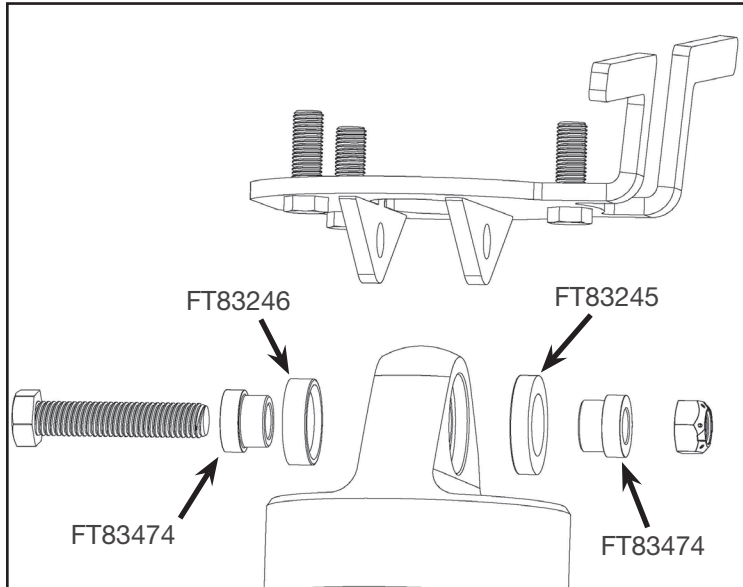

FIGURE 11 - STEP 14
14. Locate the new Driver Coilover, FT30726 (Driver upper coilover mount), FT83245 (large bushing, FT83246 (small bushing), two of the FT83474 (1/2" ID misalignment) 1/2" X 2-1/2" bolt and hardware. Using **FIGURE 11** install the upper mount on the coilover with the misalignments and bushings. **NOTE: The resi hose will orientate towards the rear of the vehicle and the 1/2" bolt will needs to be installed from the back side.** Torque to 127 ft-lbs. Once complete set aside.